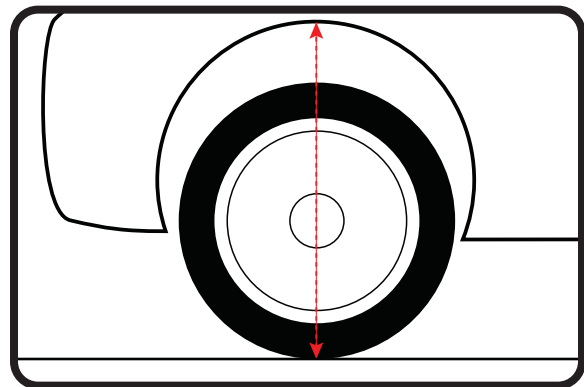

Figure 3
**3.** Using a spanner wrench (Figure 3), apply preload by threading the adjustment nut up the shock an additional 1/2" from the measurement you took in Step 2. This is your initial preload setting.
**3.** Lift the vehicle by the frame until the wheel is barely touching the ground. Take another measurement from the fender lip to the ground (Figure 3).